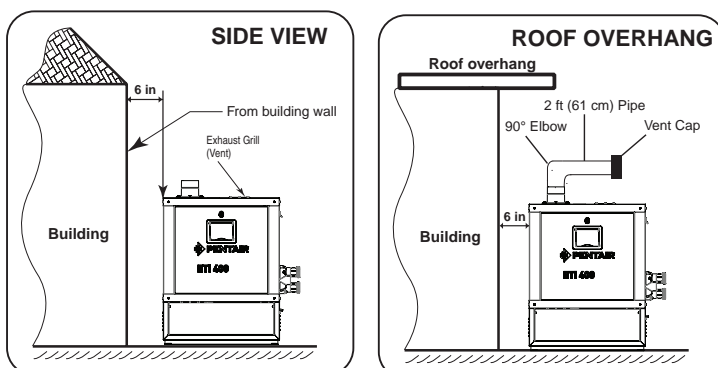

Figure 16.
*Note: Check local building codes for installing the heater from any property line set back requirements (see Figure 16 on page 23 for installation illustration).*